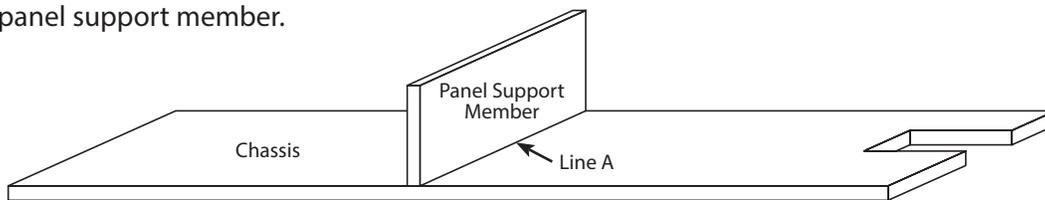

Figure 3
7. Using a cool-melt glue gun, run a small bead of glue along one of the 4" edges of the panel support member and attach it firmly at Line A (Figure 3). After it is in place, run an additional bead of glue on each side of the joint between the chassis and the support member.